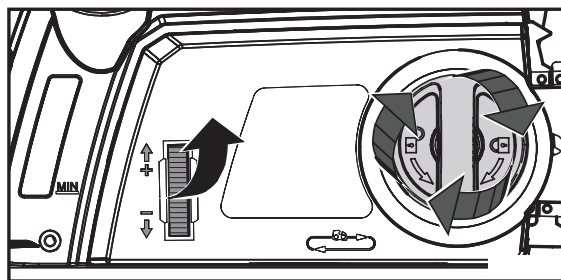
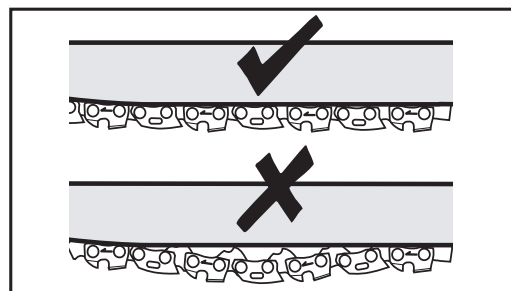

Figure 13 - Adjust chain tension
Figure 14 - Correct chain tension
2. If saw chain tension adjustment is needed, loosen the side cover lock one full turn and rotate the chain tensioning wheel (Figure 13). Rotating the wheel upwards increases the tension. Rotating it downwards decreases tension. A properly tensioned chain should have no sag and should only be able to be pulled 1/8 inch (3 mm) away from the guide bar of the saw (Figure 14).